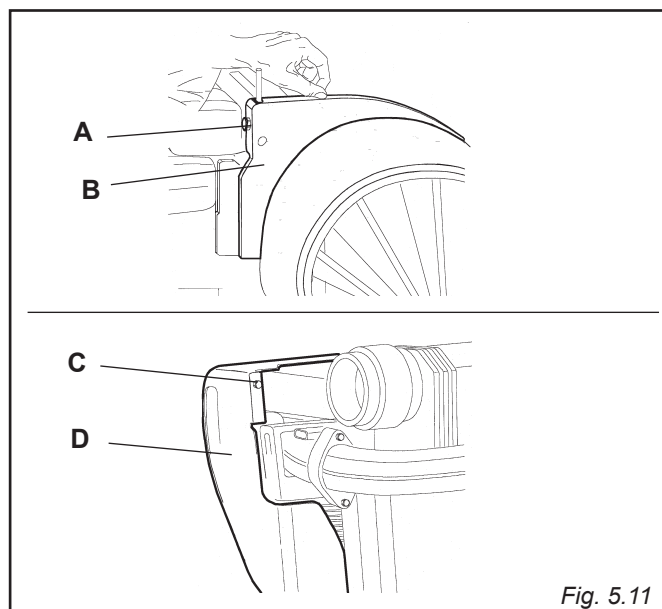

Fig. 5.11
5.15 AIR SHROUD COVER (FIG. 5.11- 5.12)